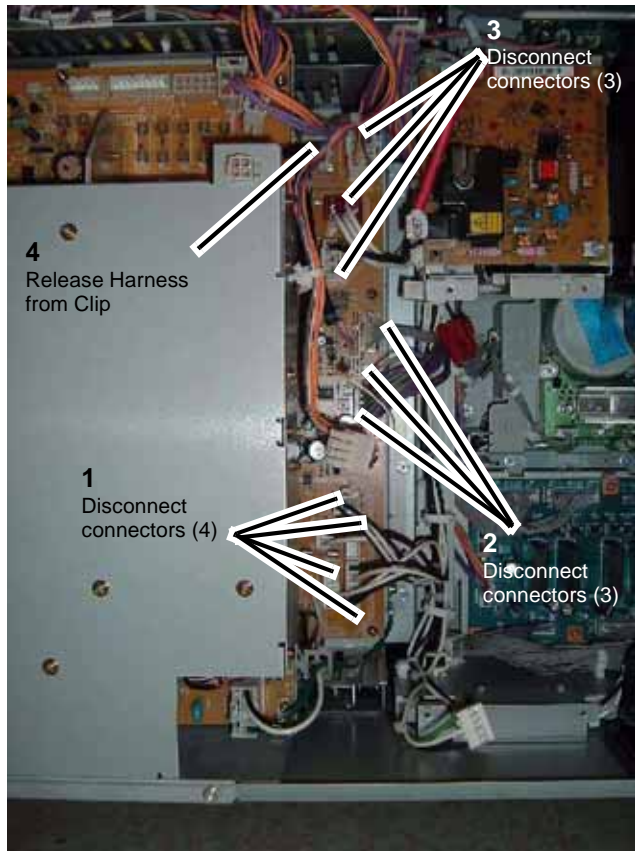

Figure 5 Disconnecting connectors
8. Disconnect Connectors (Figure 5).